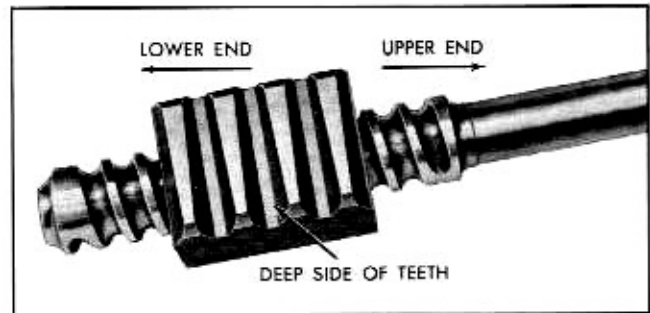

Fig. 9-29 Ball Nut Properly Installed on Shaft
1. Position ball nut on shaft so that deep side of teeth are located as shown in Fig. 9-29.